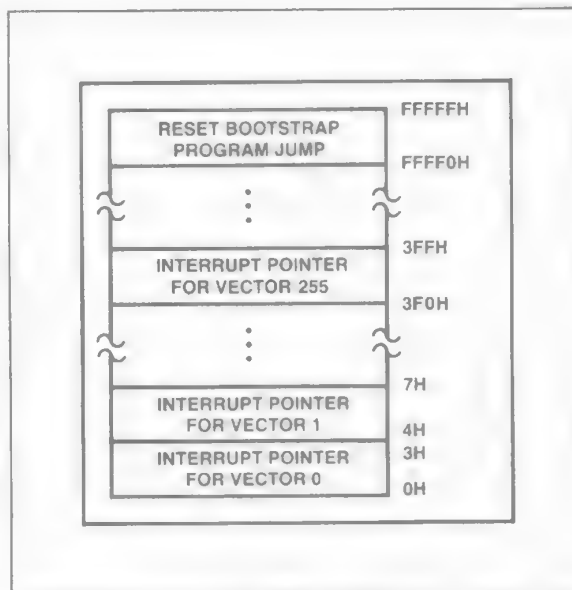

Figure 9. iAPX 86 Real Address Mode Initially Reserved Memory Locations
The 80286 reserves two fixed areas of memory in real address mode (see Figure 9); system initialization area and interrupt table area. Locations from addresses FFFF0(H) through FFFFF(H) are reserved for system initialization. Initial execution begins at location FFFF0(H). Locations 00000(H) through 003FF(H) are reserved for interrupt vectors.